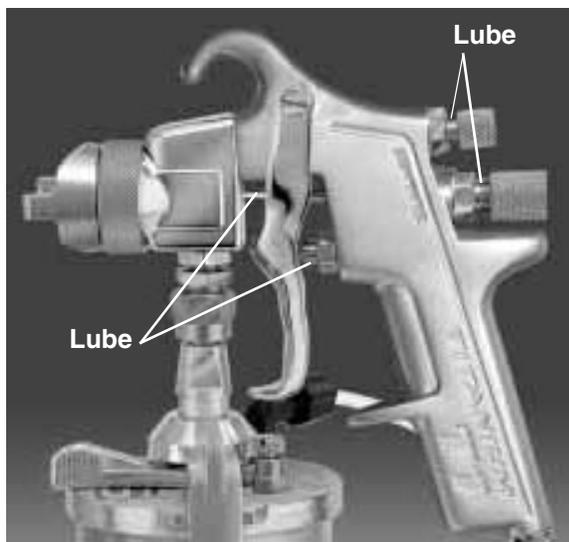

FIG. 5
- Frequently lubricate the gun moving parts with a drop of non-silicone oil (part no. 8255). See FIG. 5.